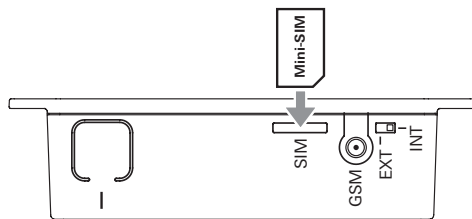

Figure 3 – Mini-SIM card
- Push the Mini-SIM card into the “SIM” slot as shown (Figure 3) until it engages.